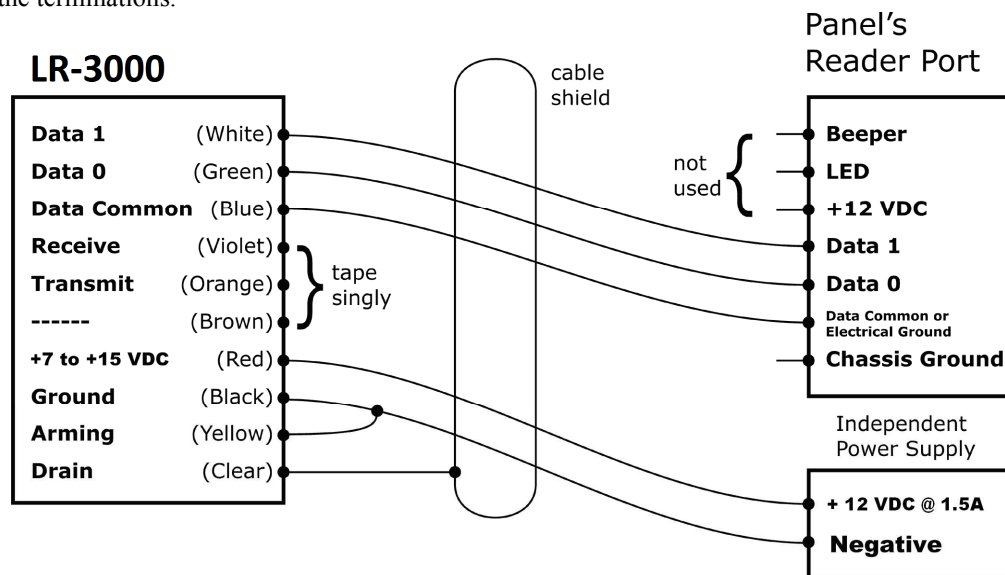

Figure 3. Wiring for LR-3000 installation.
5.3 WIRING THE READER (FOR WIEGAND INTERFACE -- Figure 3)